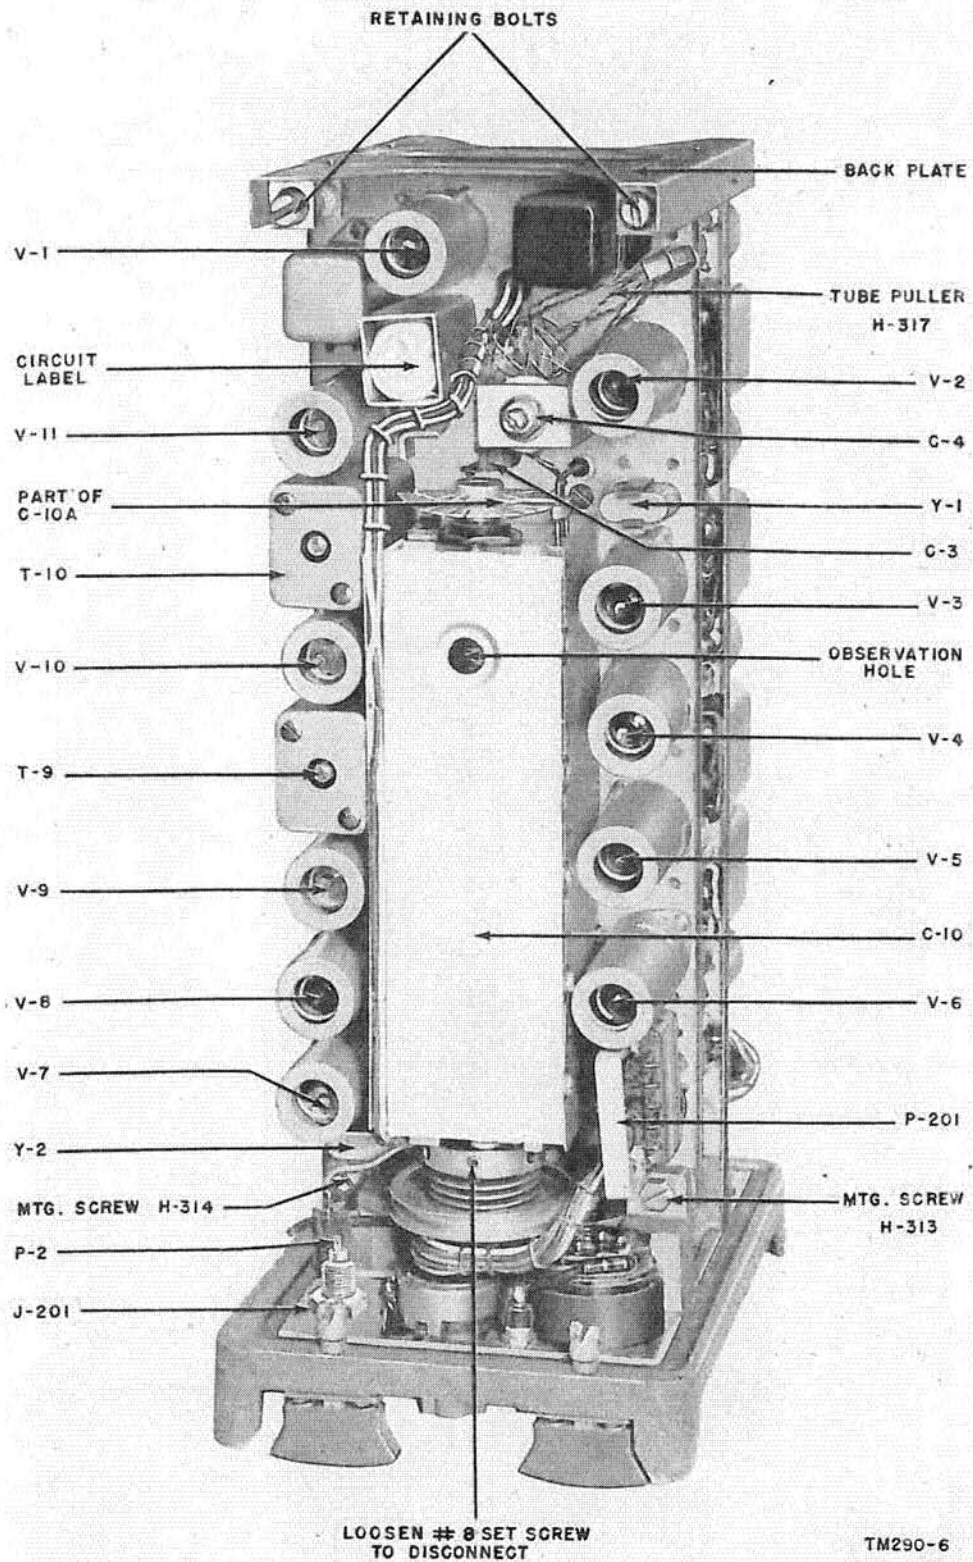

Figure 63. Set 2, view of r-f chassis.
a. To gain access to the tubes, remove the panel-chassis assembly from the case (par. 123). To remove any tube, first remove the tube shield and then use a tube puller. Do not rock or jiggle the tube; a tube may be easily damaged by careless handling. Tube locations are shown on figures 63 and 64.